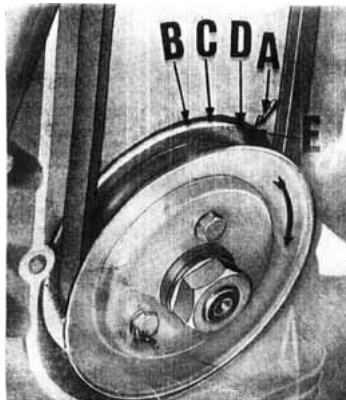

Fig. 26
Remove generator belt cover. Check that the distributor contact points are 0.42-0.48 mm. (.016" - 018") apart. Ensure the left cylinder (2) is at its compression stroke i.e. with both valves closed. Rotate the generator pulley on the crankshaft till the slot (fig. 26)
The new reference marks on the pulley (See fig. 26 and diagram 27) can be defined as follows: